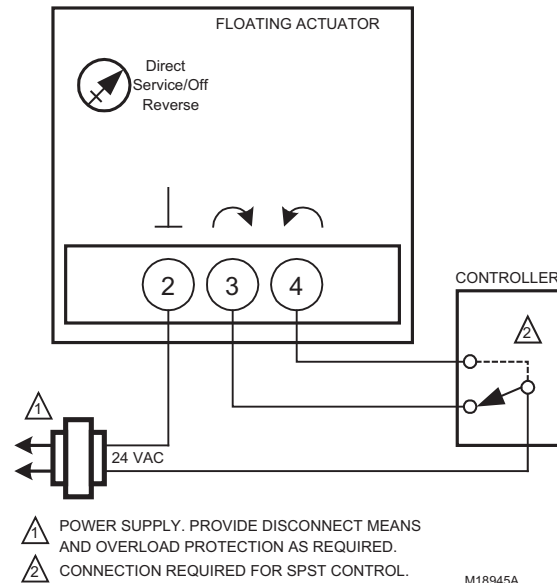

Fig. 19. Wiring for On/Off Control
2. Wire actuator using Figures 19 through 20 for the application required.